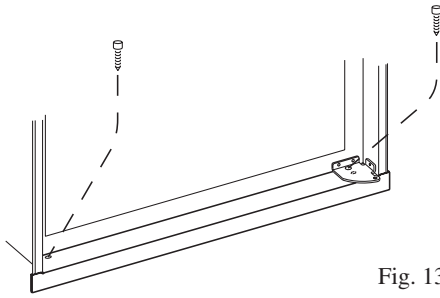

Fig. 13
- b) Secure the refrigerator and the lower front strip with two screws: One screw through the hinge, and on the opposite side and then, one screw through the lower front strip, see Fig. 13.